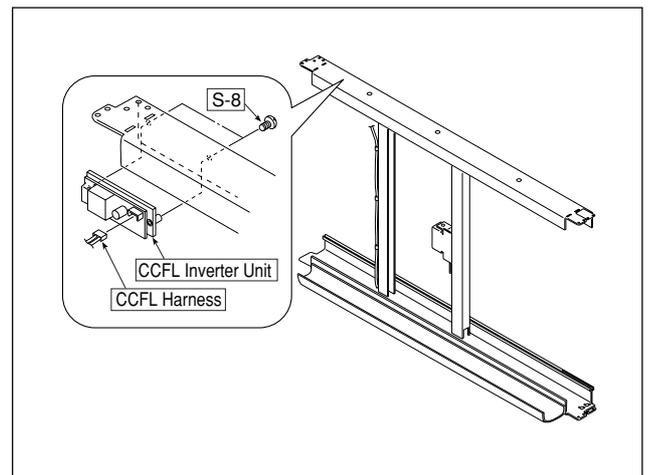

Fig. 13
11) Remove the CCFL Inverter Unit. (See Figure 13.)
2. Remove the "S-8" screw shown in Figure 13 and then remove the CCFL Inverter Unit. (Tightening torque: 4.5kgfcm)